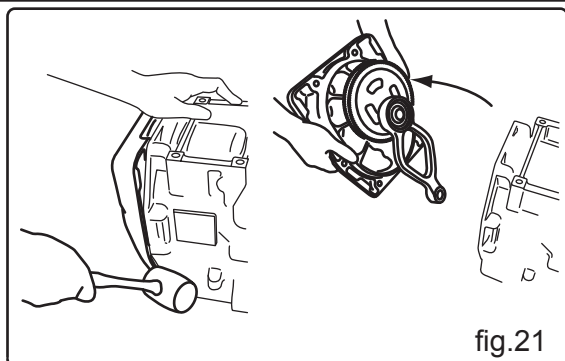

fig.21
F. Remove the front cover (106) by shocking it with the plastic hammer after unscrewing 8 pcs bolts (21) which fixing it. (fig.21)